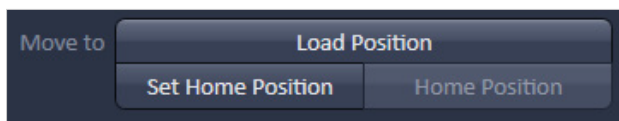

Figure 4 Navigation tool window, Load Position button
5. Move the stage of Lightsheet Z.1 in the Load Position (Fig. 4).